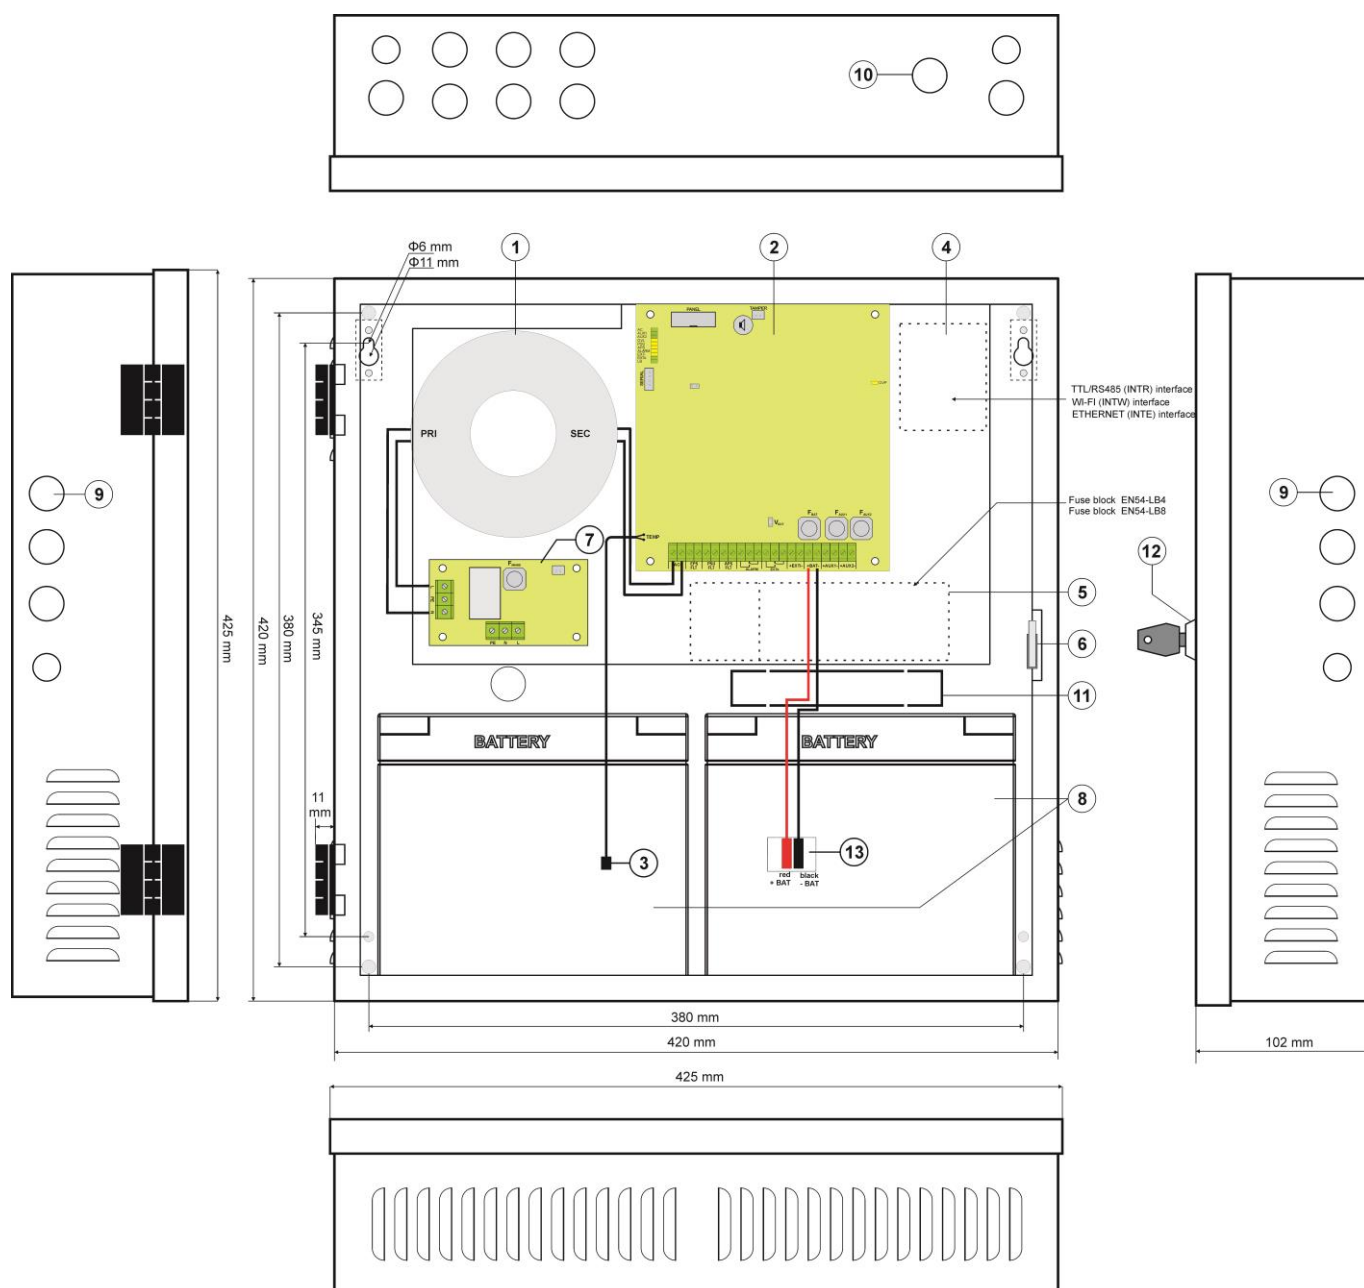

Fig.4. The view of the PSU.
Table 3. Elements of the PSU (Fig. 4).
5. Install the batteries in a designated area of the enclosure (see Fig. 4). Connect the batteries with the PSU paying special attention to the correct polarity. Batteries must be connected in series using the special cable (included). Attach the temperature sensor to any of the batteries with mounting tape (included).